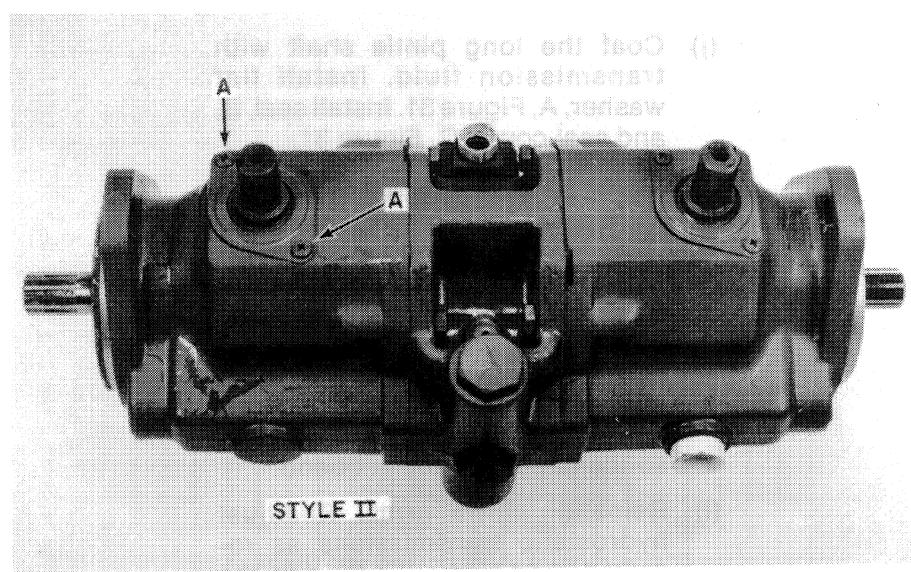

FIGURE 30
Style II seals are held in place by metal covers, Figures 30 through 33.
- (h) Style II pintle shaft seals have covers held in place by two Phillips-head or Torx-head thread-forming screws, A, Figure 30. These Torx-head screws require use of a Torx T-30 bit.